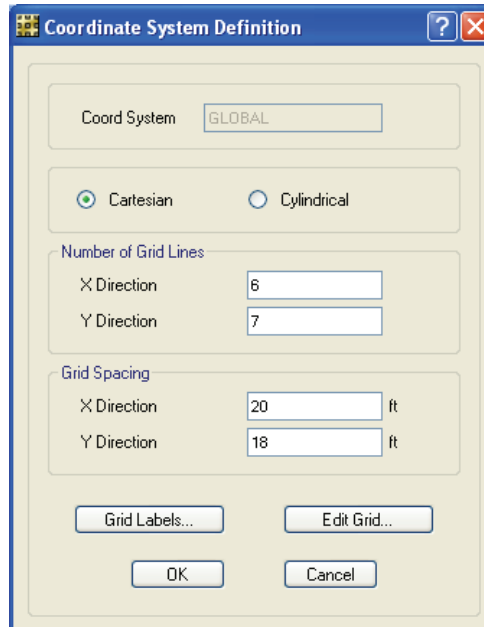

Figure 4 Coordinate System Definition form
- D. In the Initial Model area, click the **Grid Only** button to display the Coordinate System Definition form shown in Figure 4. This
- F. As shown in Figure 4, set the Number of Grid Lines in the X Direction to **6** and in the Y Direction to **7**. Set the Spacing in the X Direction to **20** feet and in the Y Direction to **18** feet.